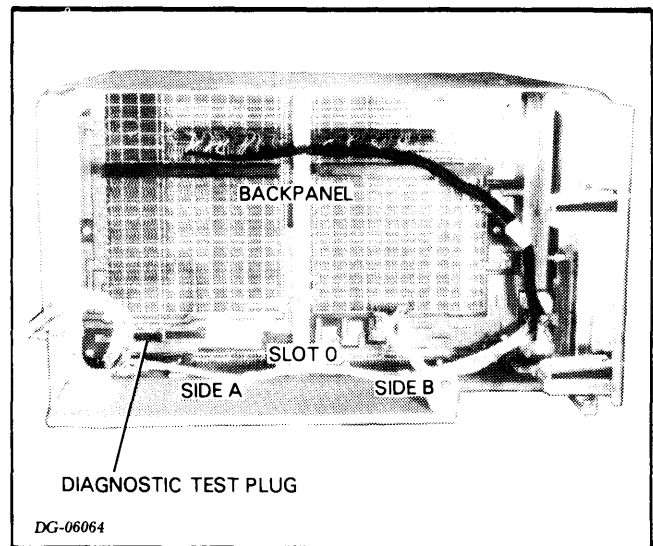

Figure 6.5 DIAGNOSTIC TEST PLUG
5. Make sure the diagnostic test plug is inserted in the correct location with the RUN label up (see Figure 6.5).
2. Check that the diagnostic test plug is in the correct location with the RUN label up (see Figure 6.5). If it is, continue to step 3; otherwise: